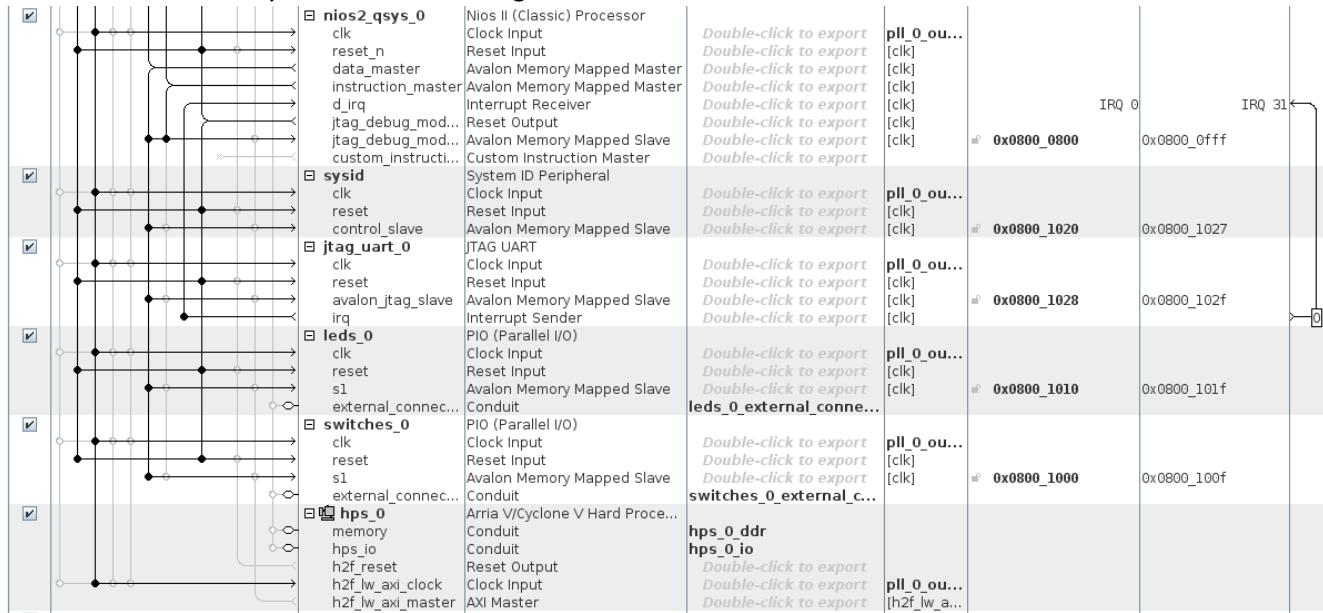

Figure 9-12. Adding the "Standalone" HPS to the System
25. Connect the system as shown in Figure 9-12 below: